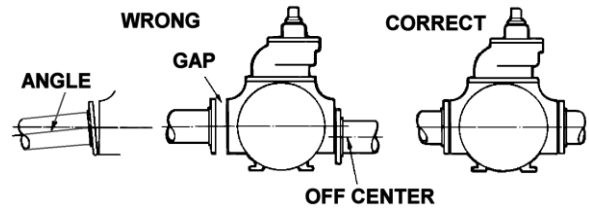

Figure 1
9. Check alignment of pipes to pump to avoid strains which might later cause misalignment. See Figure 1. Unbolt flanges or break union joints. Pipes should not spring away or drop down. After pump has been in operation for a week or two, completely recheck alignment.